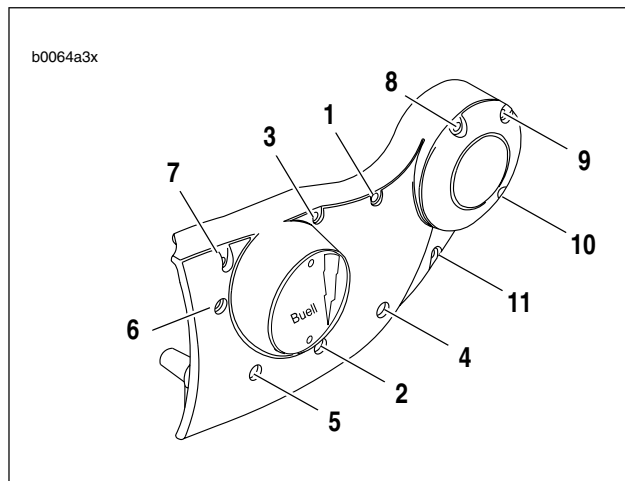

Figure 3-73. Gearcase Cover Mounting Screw Torque Sequence
5. Install gearcase cover over all gears and onto right crankcase half (10). Secure cover to crankcase half with 11 socket head screws. Tighten screws evenly to 80-110 **in-lbs** (9-12 Nm). Use torque sequence shown in Figure 3-73.